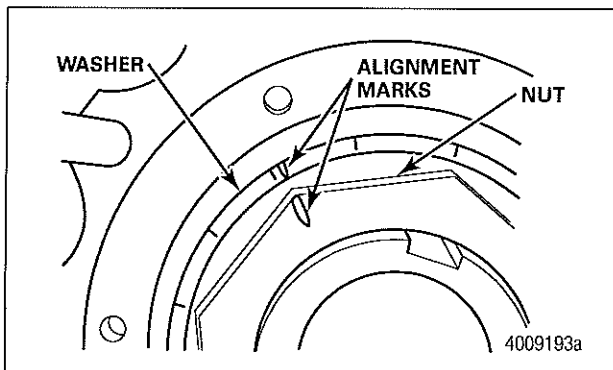

Figure 26
- H. Mark the washer and nut to ensure correct alignment. Figure 26.